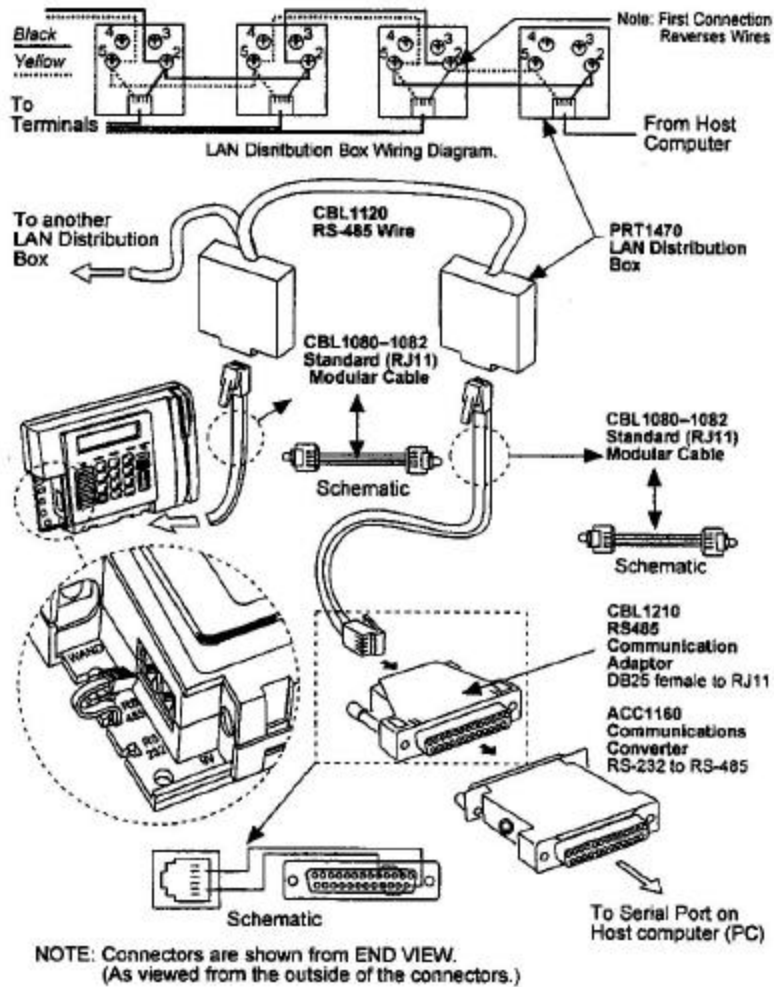

Figure 2: LAN Communication
- When wiring a network, always follow the electrical wiring codes in your area. The LAN cable (RS485 Wire) shown in Figure 2 is a shielded CAT5 cable.
1. Install the terminal per the diagram shown in Figure 2.